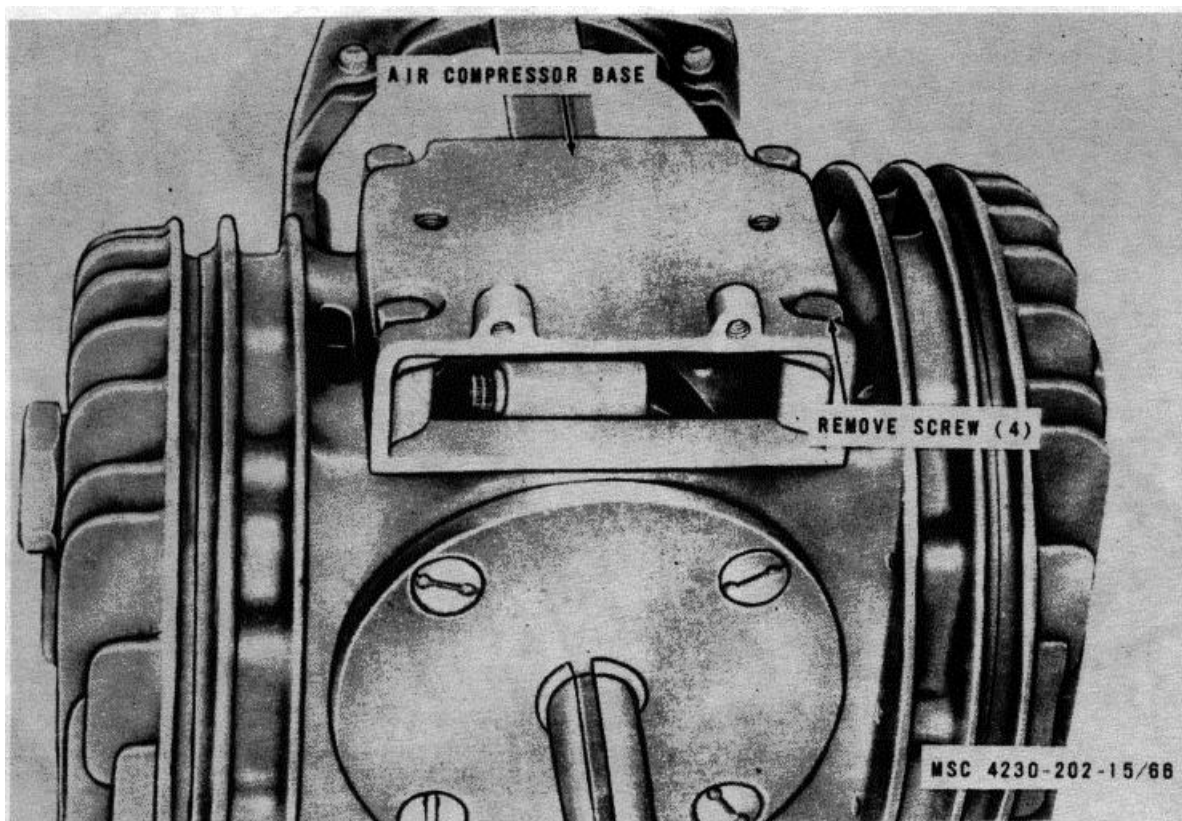

Figure 6-1. Air compressor base, removal and installation
(1) Remove the air compressor (para. 4-20).
(2) Refer to figure 6-1 and remove the air compressor base.
(1) Refer to figure 6-1 and install the air compressor base.
(2) Install the air compressor (para. 4-20).